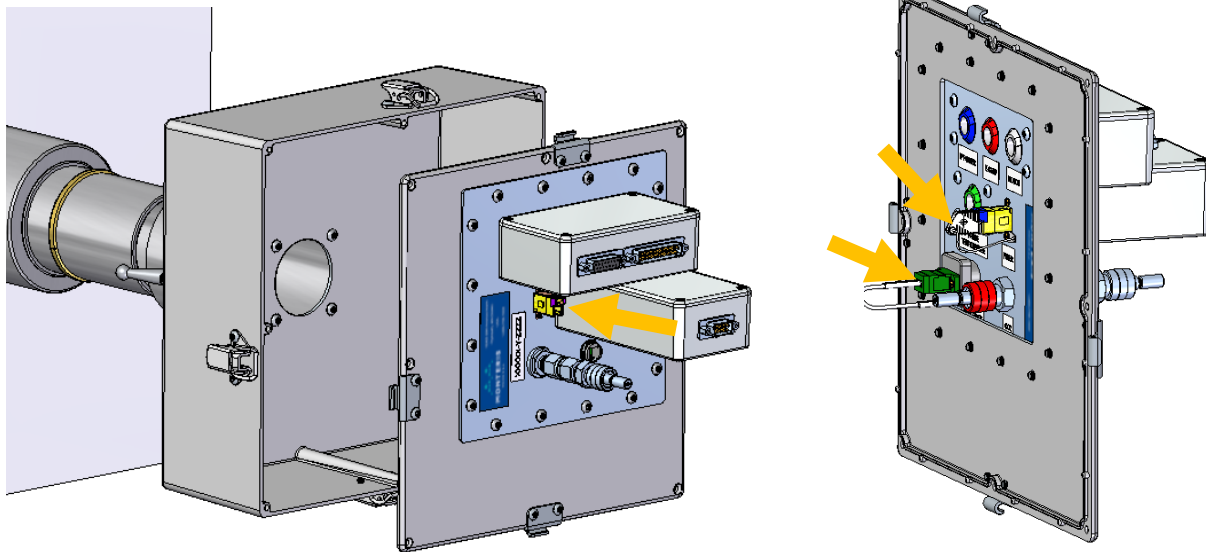

Figure 7.32 Waveguide Filter Panel Assembly and Dust Cover Locations
- Insert dust covers into the laser fiber and optical temperature sensor connectors when plugs not inserted (see orange arrows in Figure 7.32) and cover the end of the temperature sensor fiber with the protective sleeve.